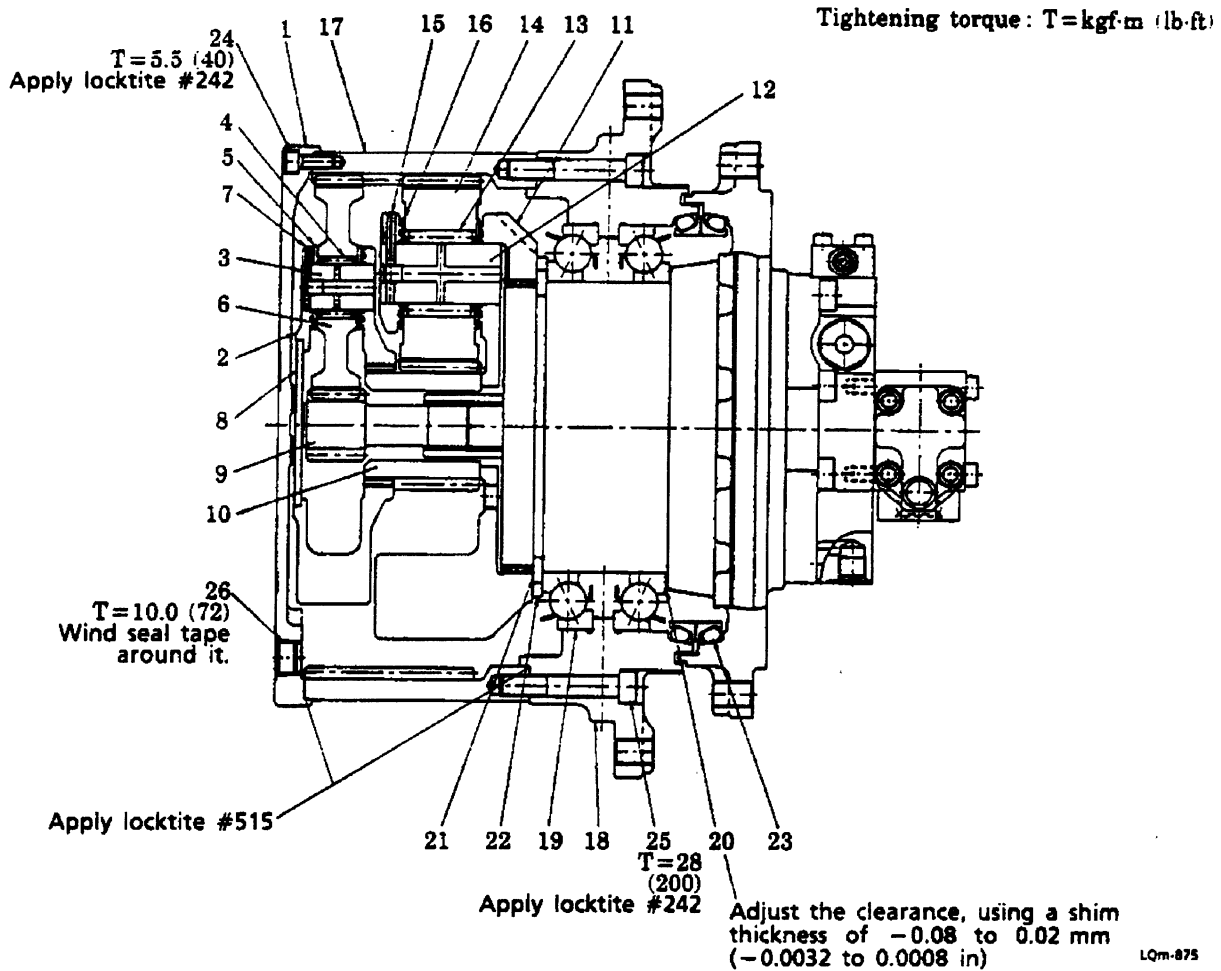

Fig. 2 Cross-sectional view of reduction unit.
The figures in parentheses after part names in the instructions correspond to those in Fig. 2.
- 1) Remove sun gear 2 (10). (Refer to Fig. 2.)
- 2) Place three M10 eye bolt in carrier pin 2 (12) and remove #2 carrier assy (11, 12, 13, 14, 15, 16).